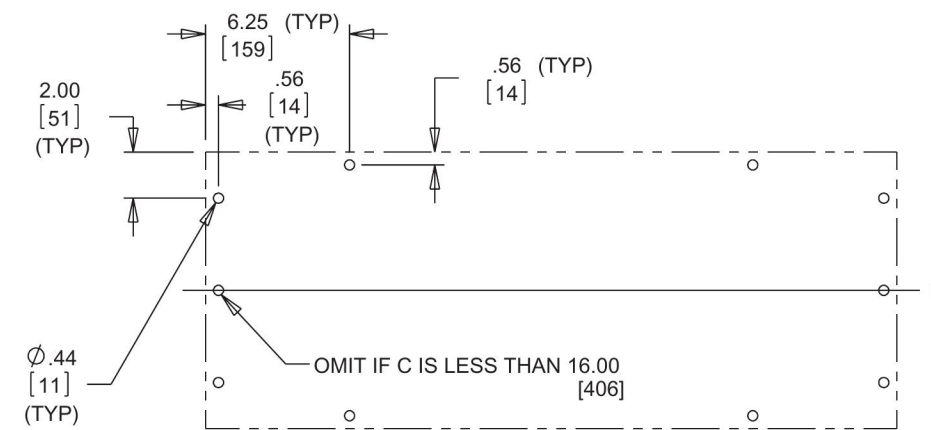

Figure 2 - Enclosure Bottom Hole Pattern
3. Drill the appropriate hole pattern in the bottom of the enclosure as shown in Figure 2.